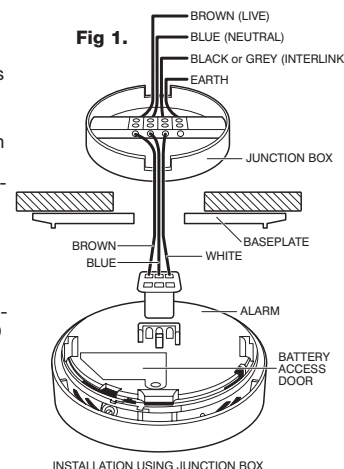

Fig 1.
B: INSTALLATION (See fig 1,2, and 3)
1. Use either of the methods of installation shown in Fig1 and 2.
The installation method shown in Fig 1 is suitable for a plaster-board or similar ceiling where access to the void behind it is available and suitable to mount the junction box.